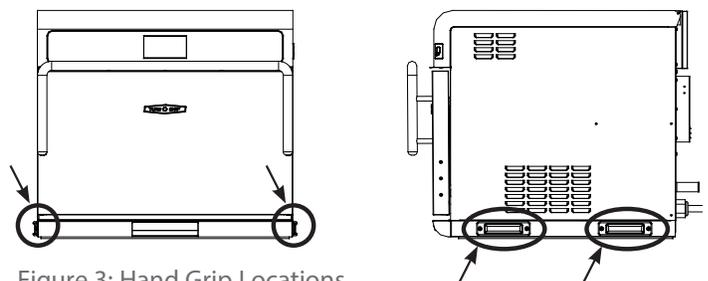

Figure 3: Hand Grip Locations
**⚠ WARNING:** Lift only by using the provided hand grips (Figure 3, below). Never lift the oven by the door handle.
3. Place hands into grips (see Figure 3) and lift.